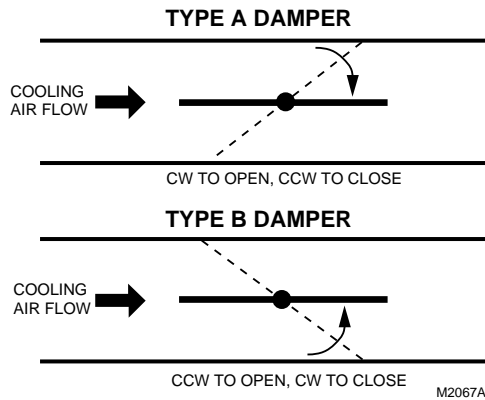

Fig. 3. Determining direction damper shaft rotates when opening.
2. Direction the shaft rotates to open the device (cw or ccw). See Fig. 3.